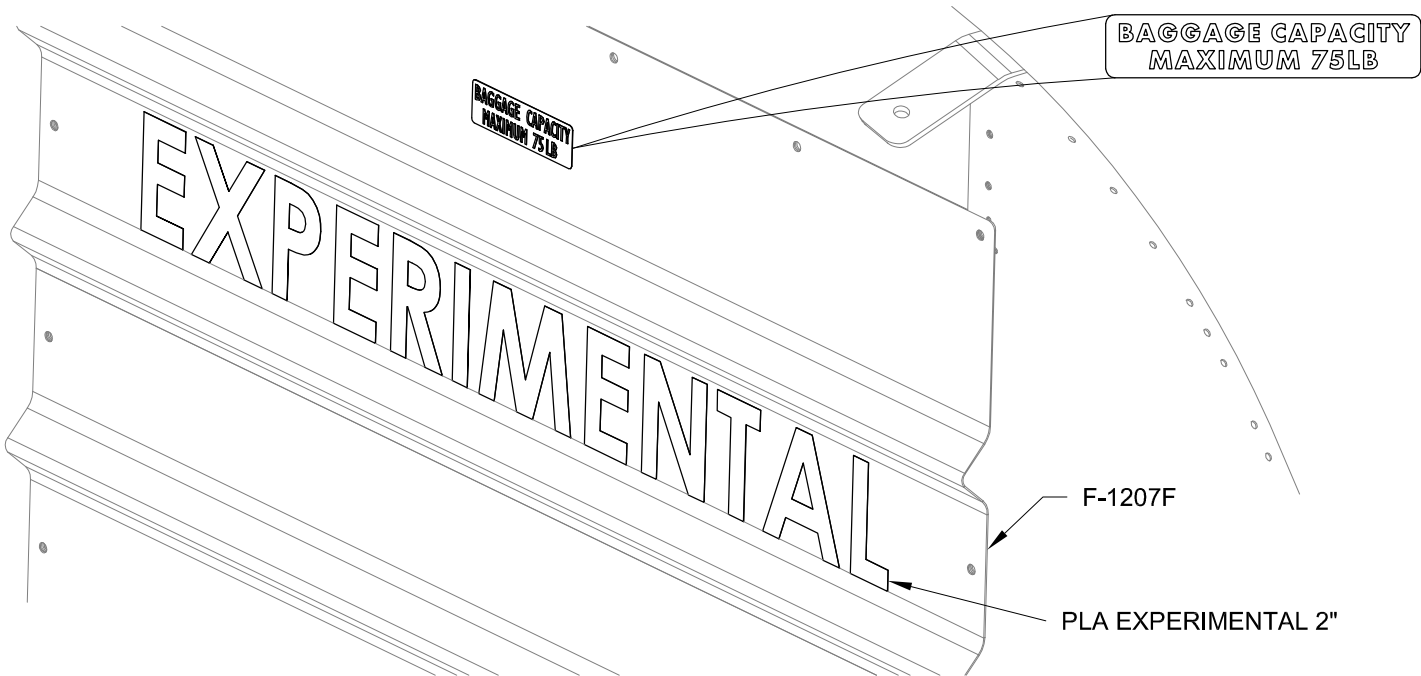

FIGURE 3: BAGGAGE BULKHEAD CORRUGATION LABELS
Step 2: Install the F-01200D baggage capacity label on the F-1207F Baggage Bulkhead Corrugation as shown in Figure 3.
Step 3: (ELSA) Install the PLA EXPERIMENTAL 2" decal on the F-1207F as shown in Figure 3.
Step 3: (SLSA) Install a decal (or paint) "LIGHT-SPORT" in 2 inch high letters on the F-1207F in the same location as the "EXPERIMENTAL" decal shown in Figure 3 ("LIGHT-SPORT" decals are not provided by Van's).